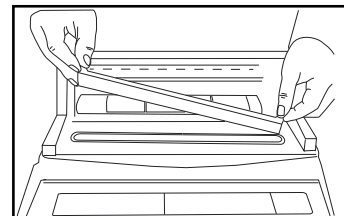

Figure 9
NOTE: Empty Drip Tray after each use. (See Figure 9) Wash in warm soapy water or place in top rack of dishwasher. The Food Sensors in the Drip Tray (K) will not function correctly if liquid is allowed to remain in Drip Tray.